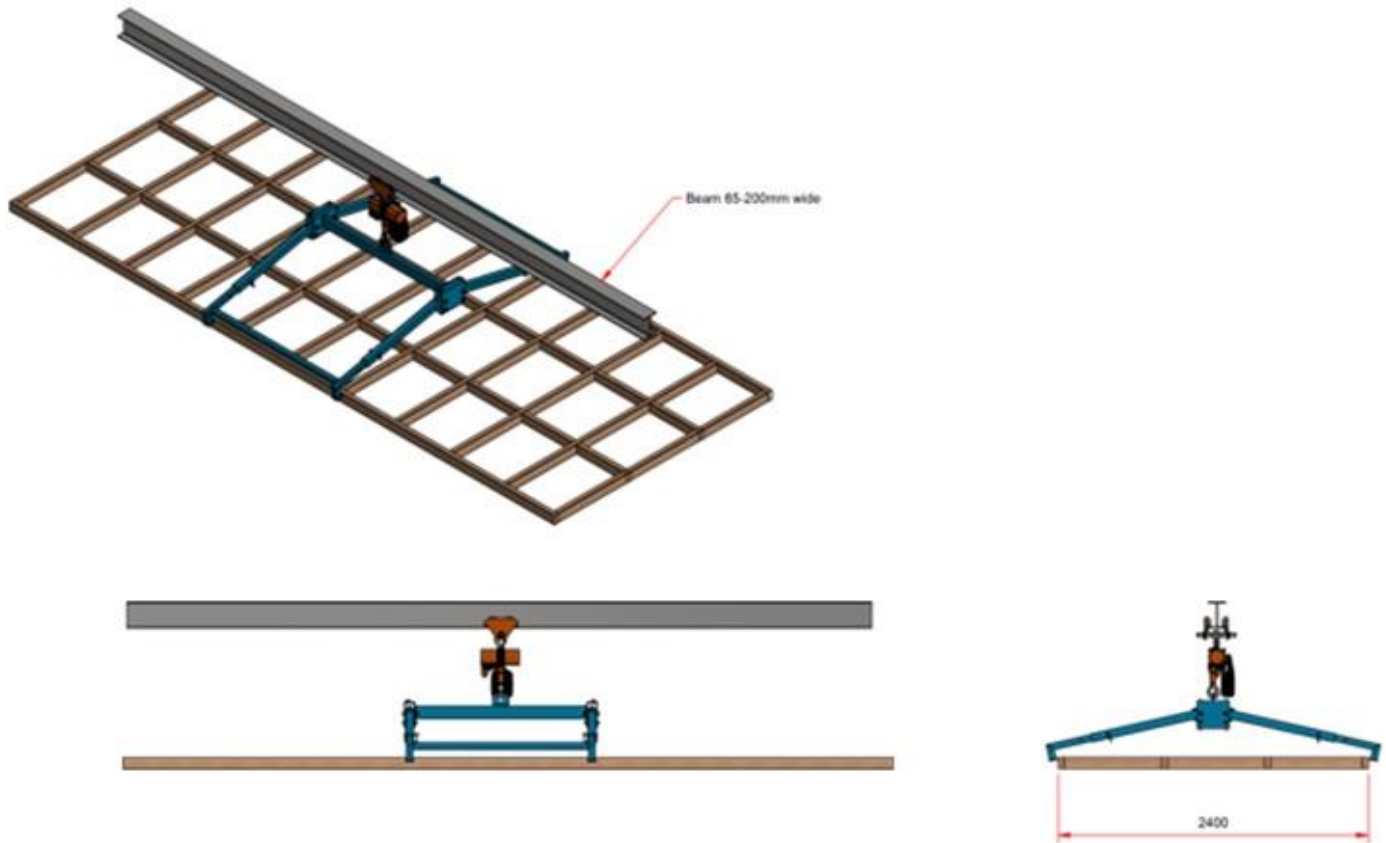

Figure 1, Locating Clamp
2. Lower the Frame Lifting Clamp, until the clamp is in line with the material, both vertically and horizontally. (See Figure 1)